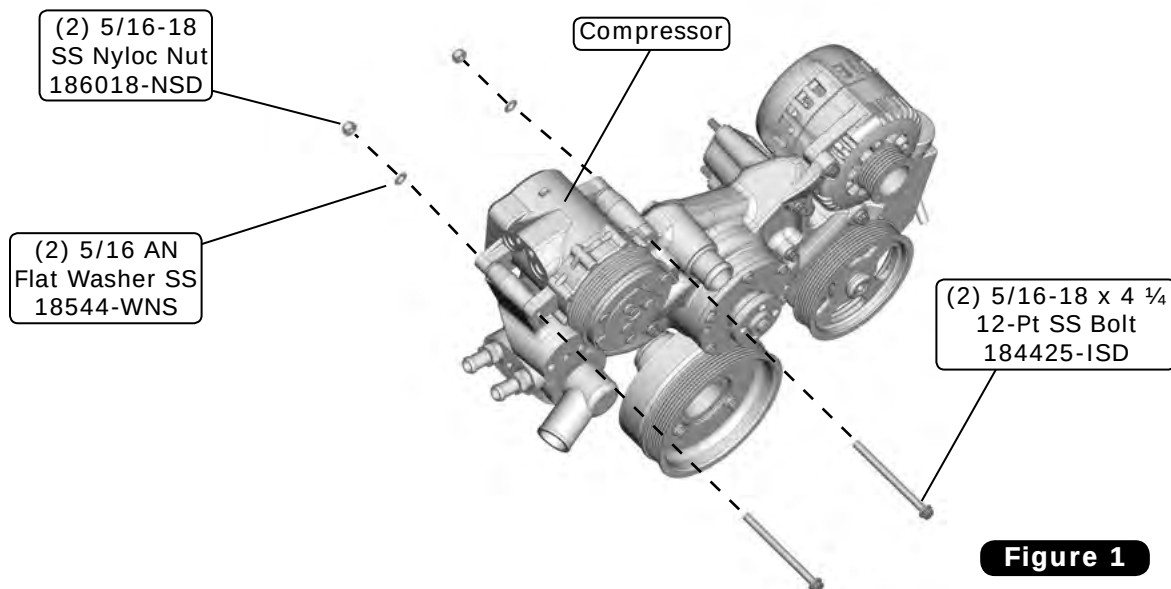

Figure 1
- Install compressor with (2) 5/16-18 x 4 1/4" 12-Pt SS bolts, (2) 5/16" AN flat washers and (2) 5/16-18 SS nyloc nuts (See Figure 1, below). The compressor mounting ears contain sliding bushings that are drawn in and clamp to the bracket when compressed. Torque 5/16-18 x 4 1/4" 12-Pt SS bolts to 22 lb ft.